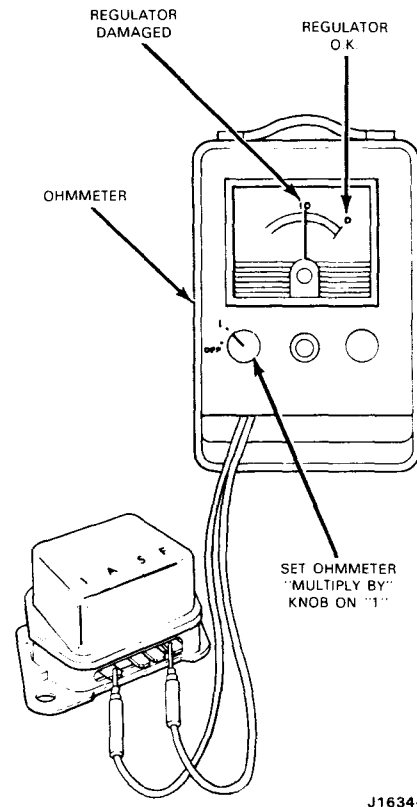

FIG. 12 Regulator Burned — Open Connector Wire Test
8. A check for the regulator burned open wire is made by connecting an ohmmeter from the I to F terminals of the regulator (Figure 12). The reading should indicate 0 (no resistance). If the reading indicates approximately 10 ohms, the connector wire inside the regulator is open.